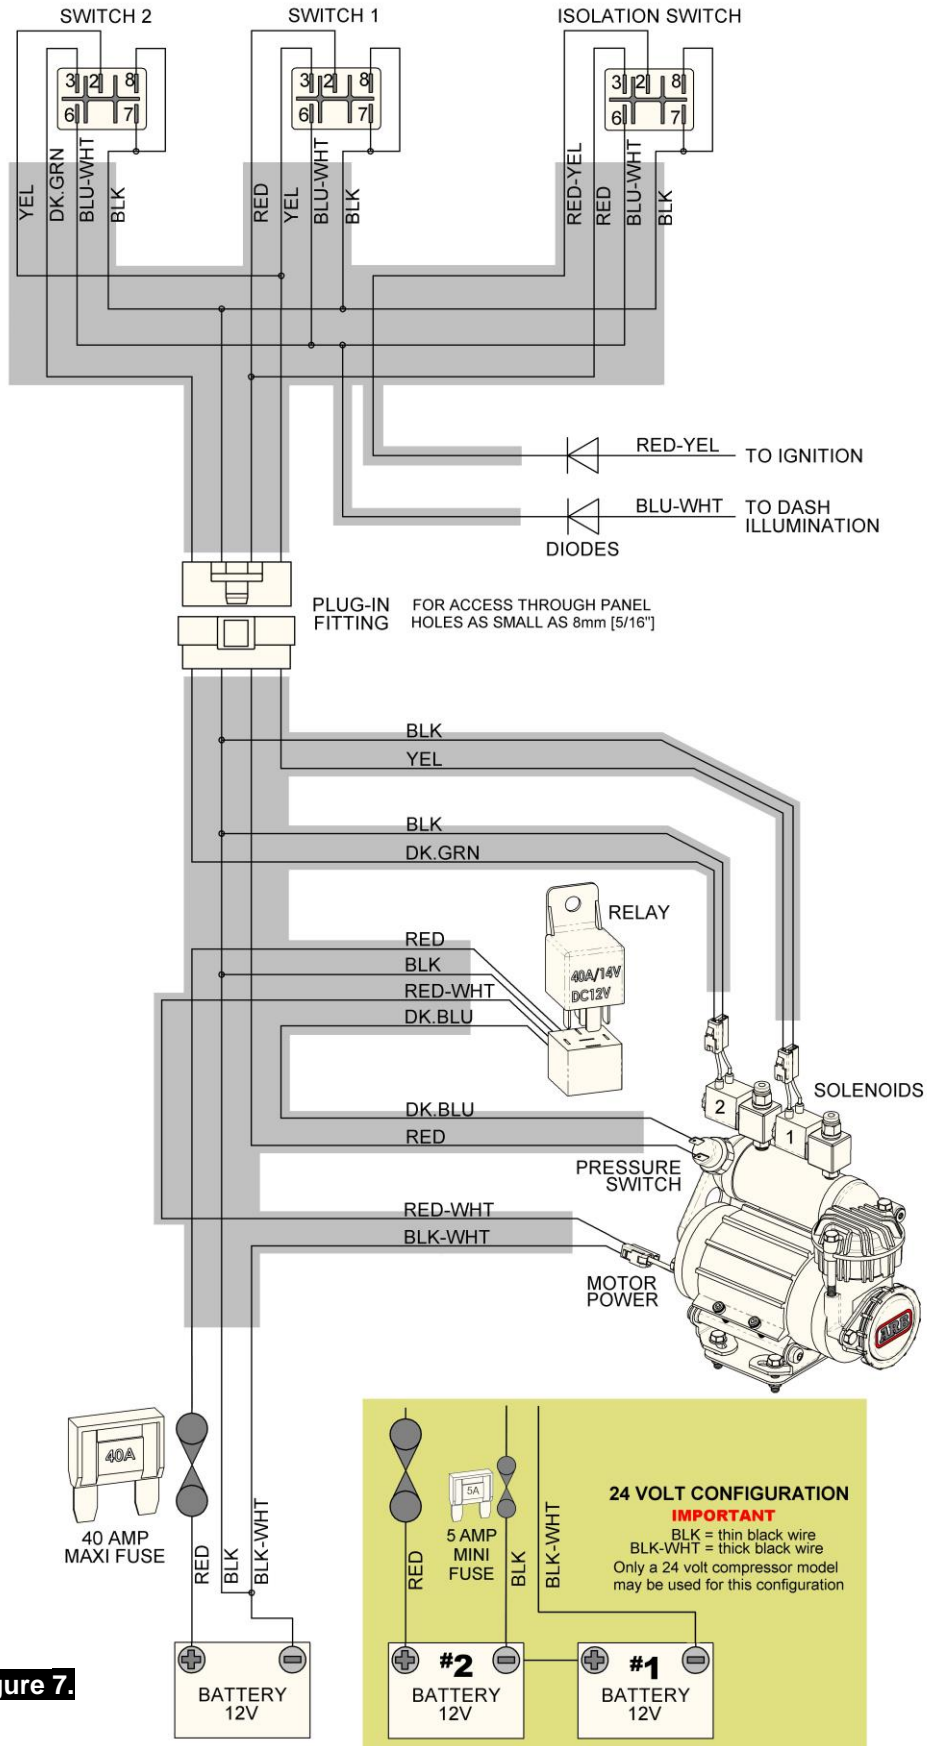
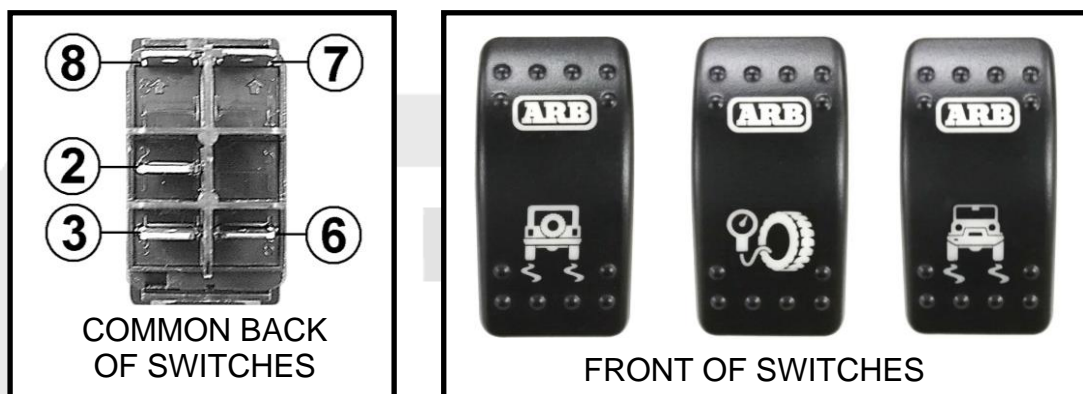

Figure 7.
Figure 8.
When wiring an ARB compressor switch, *Air Locker* pressure switch, *Air Locker* actuator switch(es) and *Air Locker* solenoid(s) to an ARB Air Compressor, all connections can easily be set up using only the supplied wiring loom (ARB #180409 shown in Figure 7.)
- Consulting the wiring diagram (Fig.7.) for wire colors, and the switch terminal illustration (Fig.8.), plug each of the female spade terminals onto their appropriate switch terminal.
NOTE : In a 12V system the 2 black wires (BLK and BLK-WHT) will be joined together, so they may be crimped together into the same yellow eye terminal if desired. Refer to wiring diagram in Fig 7.
- Identify which battery in the system will be used as the 24V negative (-) terminal (i.e., Battery #1 in the wiring diagram Fig. 7.) by connecting a multimeter across the positive (+) terminal of one battery to the negative (-) terminal of the other battery. If you have tested the correct negative (-) terminal then you will read approximately 24 volts on the multimeter, and this battery will be battery #1, and the other battery with the positive (+) terminal you have just tested will be battery #2 (refer to wiring diagram Fig. 7.).
NOTE : Double check that the connections match the wiring diagram (Fig 7.). Accidentally reversing the 2 black wires will cause damage to the compressor kit.
The following describes an effective procedure for tracing an electrical fault in a CKMA12 or CKMA24 compressor which has been wired using a genuine ARB wiring loom (refer to the diagram in Figure 7.). All steps must be performed in the order listed here for an accurate assessment.